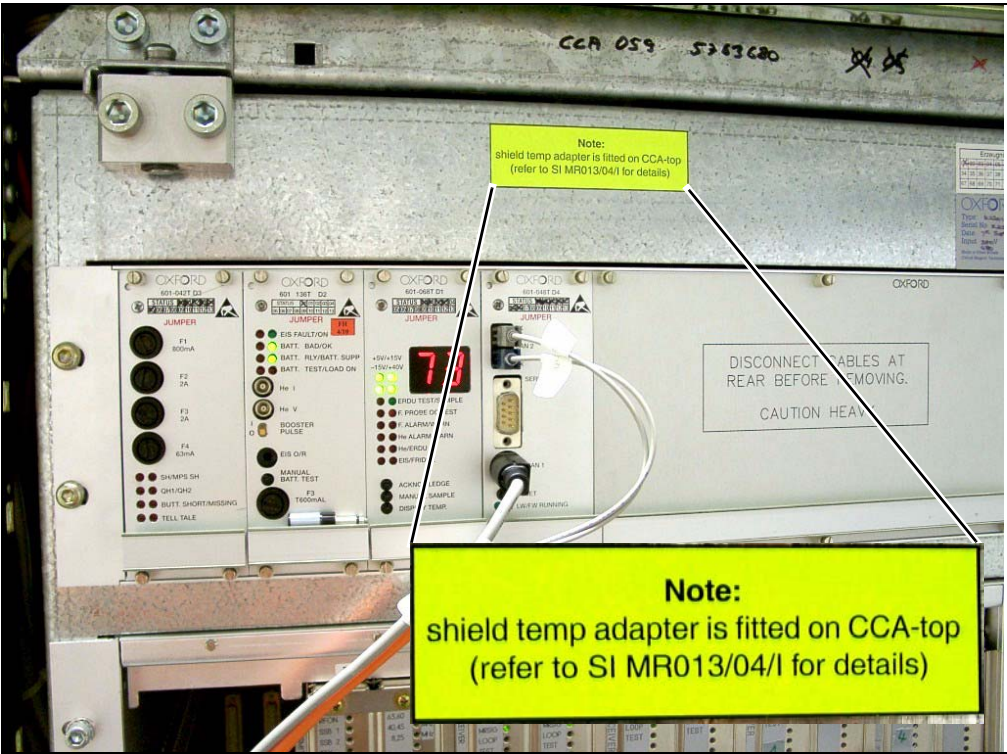

Fig. 5 Label fitted on front of the CCA cabinet (above the Magnet Supervision)
- Fit label inside the CCA cabinet as shown in Fig. 5.